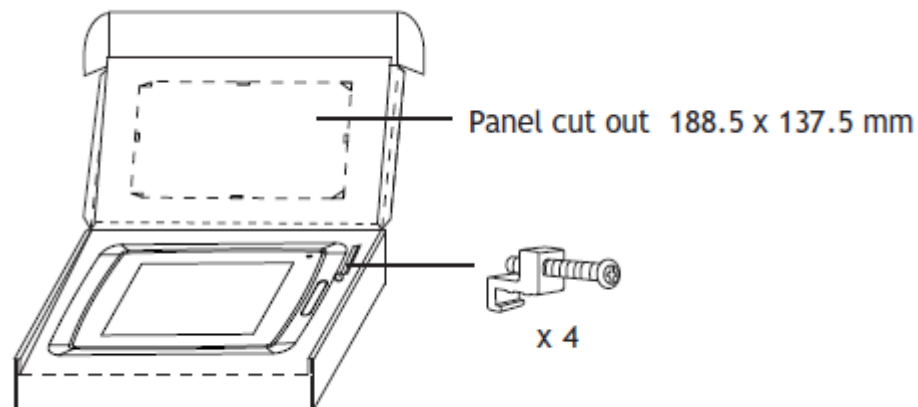

Figure 2-2: Delivery and contents
1. Unpack and check the delivery (see Figure 2-2). If damage is found, notify the supplier.